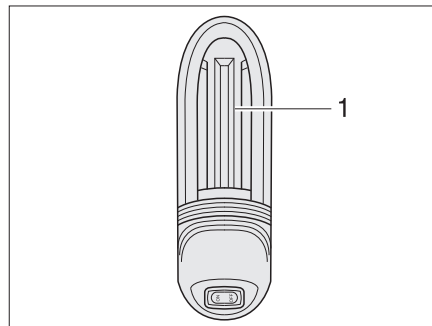

Fig. 399 Garage light
- Push the light covering (Fig. 399,1) up slightly and remove it.